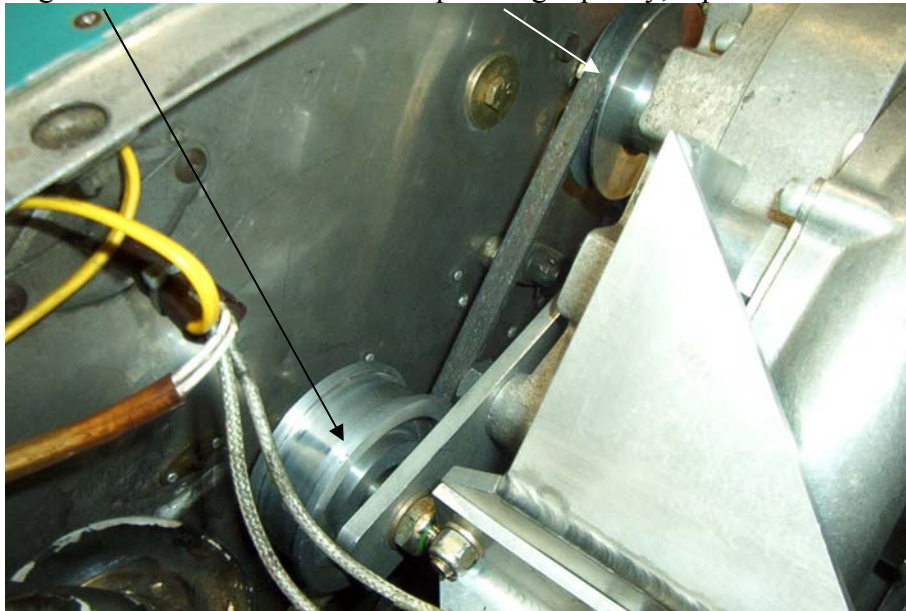

Figure 2
8. Remove the supercharger pulley (figure 2) and replace it with pulley P/N 182LR009-2 using the existing hardware.
7. Remove the supercharger pulley (figure 2) and replace it with pulley P/N 182LR009-3 using the existing hardware.